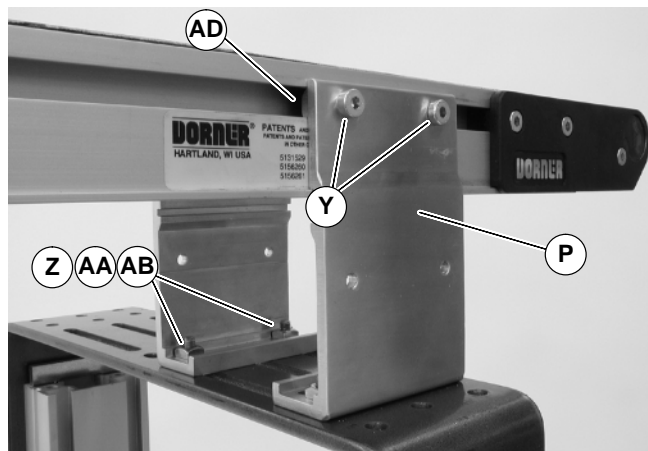

Figure 11
3. Insert T-bars (AC of Figures 9 & 10) into conveyor side slots (AD of Figure 11). Fasten brackets (P of Figure 11) to conveyor with mounting screws (Y).
4. Fasten brackets to support stand with mounting screws (Z of Figure 11), washers (AA) and nuts (AB).
5. Tighten screws (Y & Z of Figure 11) to 7 Nm.